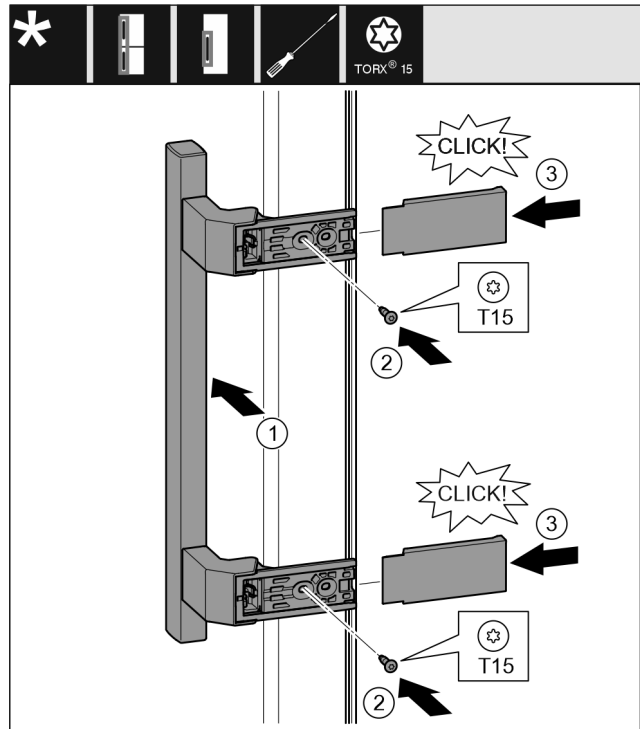

Fig. 20
- ▶ Position the handle on the other side. Fig. 20 (1)
- ▶ Tighten the screw with a T15 screwdriver. Fig. 20 (2)
- ▶ Position the covers on the side and push them on. Fig. 20 (3)